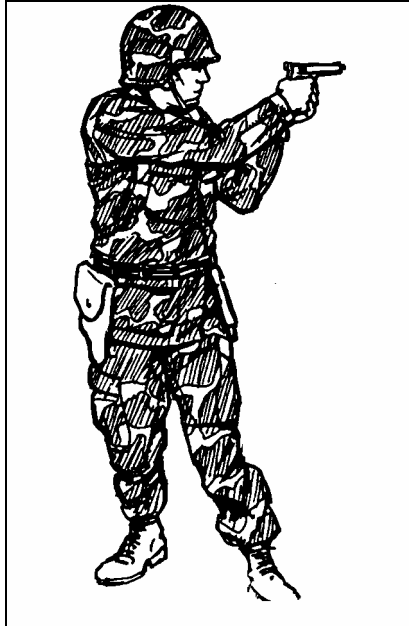

Figure 2-15. Traversing over the left shoulder.
(1) **Over the Left Shoulder** (Figure 2-15): The upper body is turned to the left, the weapon points to the left rear with the elbows of both arms bent. The left elbow is naturally bent more than the right elbow.